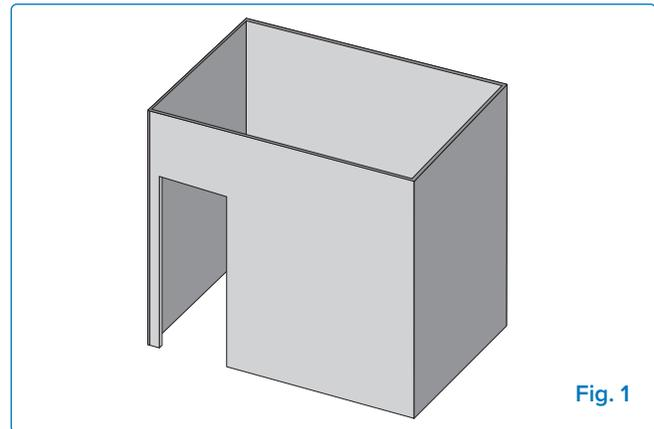

Fig. 1
- An enclosure with walls on all sides, but at least one permanent opening at ground level and no overhead cover (**Fig 1**).